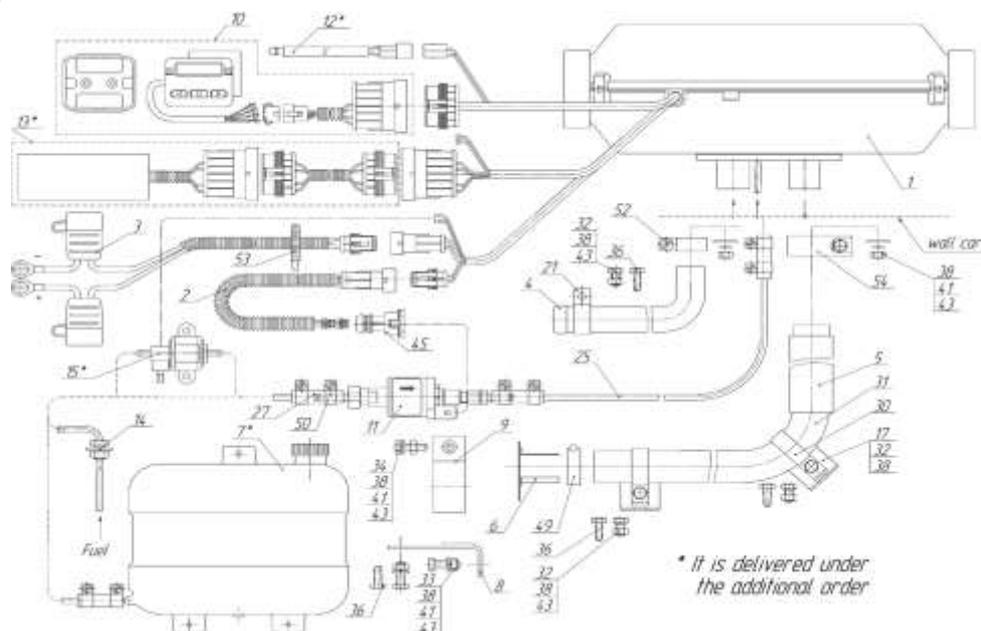

Figure 7.1 – Connection Diagram of Basic Heater Components
Fix the exhaust pipe in place using clamps and position it at a slight angle following the trajectory of gas flow. To protect some parts of the vehicle (electric wiring and other harness) from high temperatures, there must be heat insulation installed. (pos.3, fig.7.1)
Do not allow exhaust gas to affect the performance of vehicle components. Position the exhaust pipe outlet vent so as to prevent snow entering or choking the pipe and to allow incoming water to run off. At the vent of the exhaust pipe the screen is installed, this necessary for stable operation of the heater while working low idle. If this screen is not installed, install it according fig.7.1